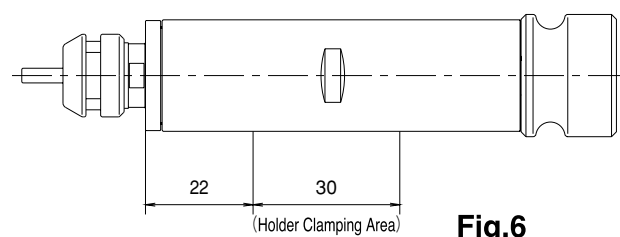

Fig.6
- ① When mounting the spindle avoid the area where bearings are located. If the spindle is mounted inappropriately, this will cause and damage to the spindle. (Refer to the clamping area drawing in Fig.6)